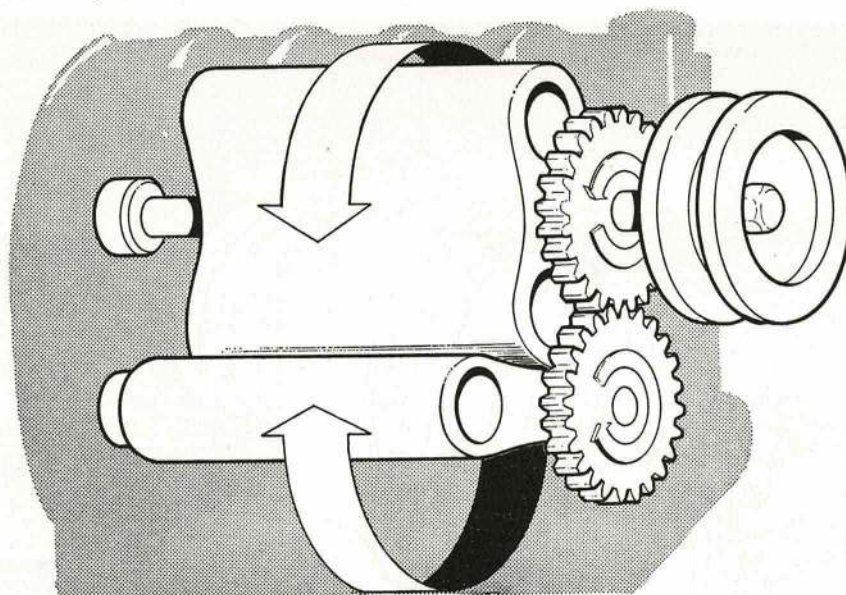

Fig. 6. ROOTS PRINCIPLE
26. The air blower is constructed on the Roots principle (Fig. 6). The figure-eight shaped rotors are borne by ball bearings at one end and roller bearings at the other end, and they are geared together to rotate in opposite directions inside the rotor casing. The gears and the bearings are the only parts requiring lubrication so the gear end cover forms an oil reservoir and is provided with a filler plug, a drain plug and a dipstick. The oil level must **NOT** be allowed to fall below the **MIN.** mark on the dipstick.